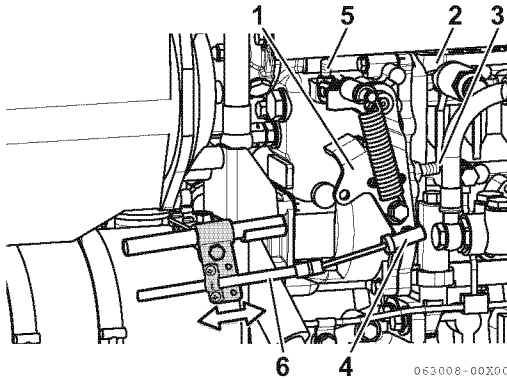

Figure 10
1. To adjust, loosen the adjustment screw (Figure 10, (4)) for the remote control cable on the engine side and adjust.
2. Adjust the high-speed stop (Figure 10, (5)) position first and then adjust the low-speed stop (Figure 10, (3)) with the adjustment screw on the remote control lever (Figure 10, (1)).